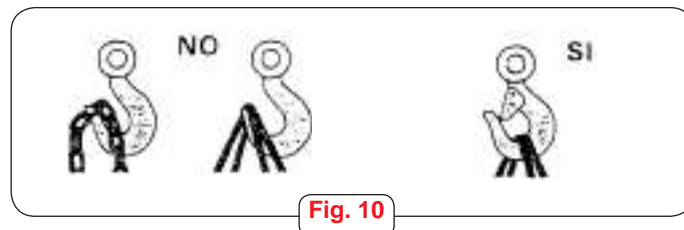

Fig. 10
- that stress is taken by the bottom of the hook and not by the beak (fig. 10);